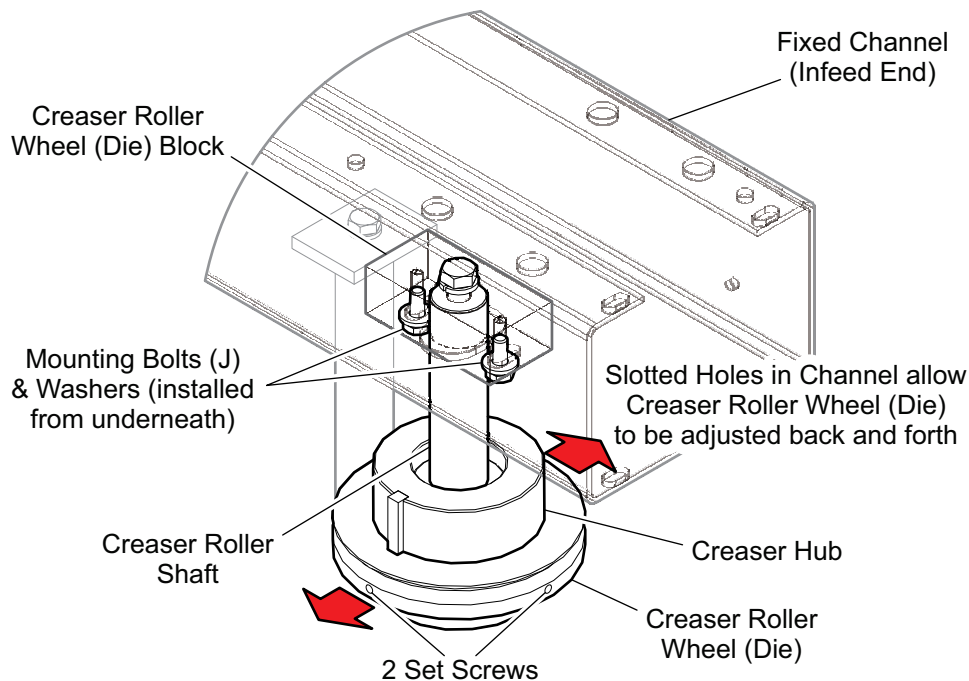
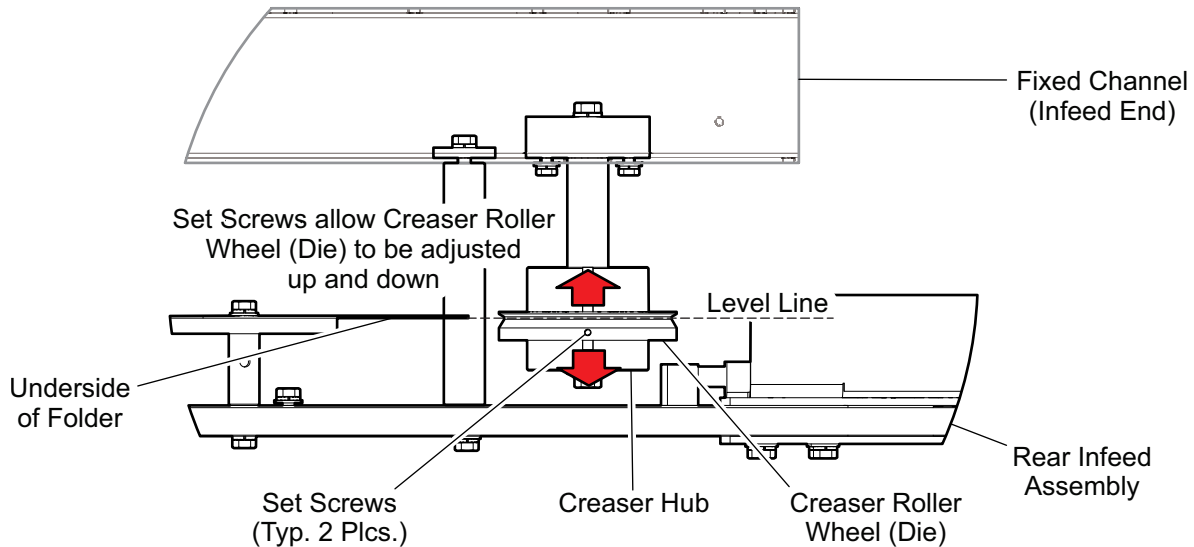

Figure 5-12: Creaser Roller Wheel (Die) Block Hardware
Figure 5-13: Creaser Roller Wheel Vertical Position
- Loosen the two bolts, (J) holding the block to the channel (see Figure 5-12: Creaser Roller Wheel \(Die\) Block Hardware). Do not remove the bolts, (J).
The crease of the bag top must enter the folder at the correct height after exiting the creaser assembly. The creaser die groove must be centered across from the underside of the folder (see Figure 5-13: Creaser Roller Wheel Vertical Position). If the height of the creaser die needs to be adjusted continue to follow these steps:
1. Loosen the two set screws that hold the creaser roller wheel (die) to the creaser hub (see Figure 5-12: Creaser Roller Wheel \(Die\) Block Hardware and Figure 5-13: Creaser Roller Wheel Vertical Position).